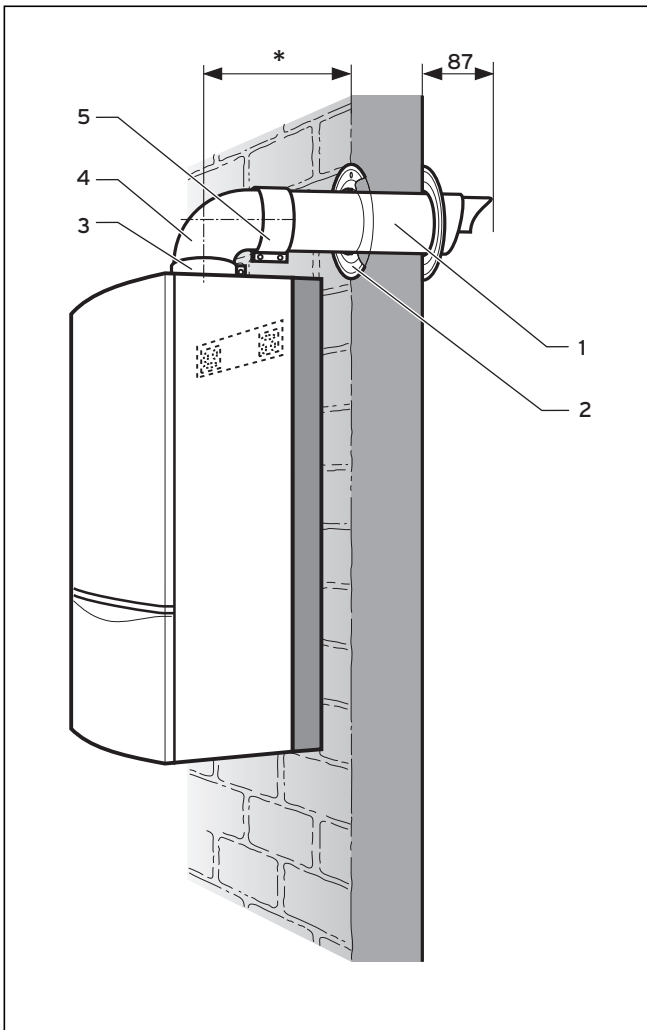
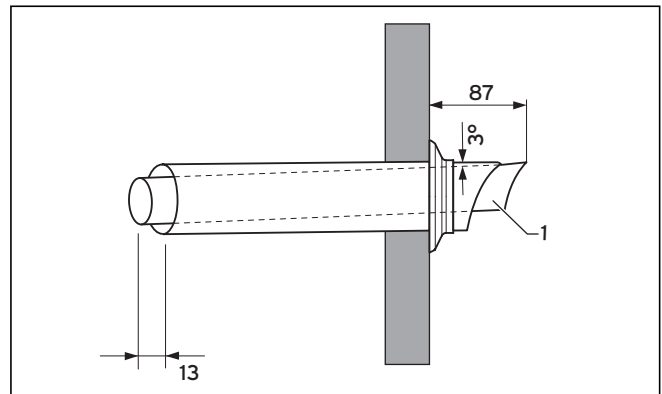

Fig. 2.6 Assembly of the boiler and of the roof duct to buildings with pitched roofs
Fig. 2.10 Assembly of the horizontal wall duct
- Push the air/flue duct assembly (1) including the flexible external seal through the wall until the seal clears the outside face of the wall and pull air/flue duct back towards the boiler until the external seal touches the outside wall (fig. 2.6 and fig. 2.10).
- Ensure that the air/flue duct (1) is centred in the hole and the terminal is correctly positioned with the inlet grille at the bottom (fig. 2.6 and fig. 2.10).
- Slide the internal trim ring (2) over the air duct until it is flush with the wall (2, fig. 2.6).
- Fit the elbow (4) to the boiler by inserting the spigot of the flue elbow into the flue socket on the boiler and secure using the 30 mm air duct clamp (3) provided (fig. 2.6).
- Fit the 48 mm air duct clamp (5) ensuring that it is positioned centrally (fig. 2.6).